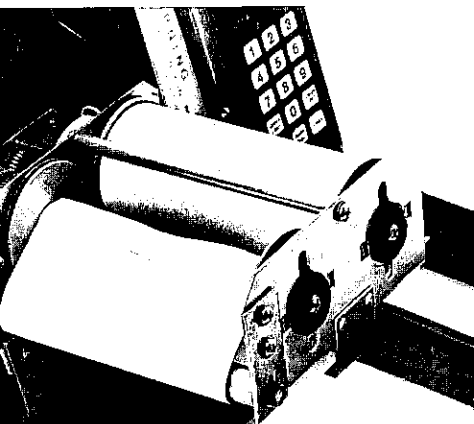

Figure 32
8. Draw the end of the paper across the face of the platen, around the friction roller, over the take-up core, and tape it squarely to the take-up core. (See Figure 32.) (Hint: small strips of tape may be stored inside housing.)